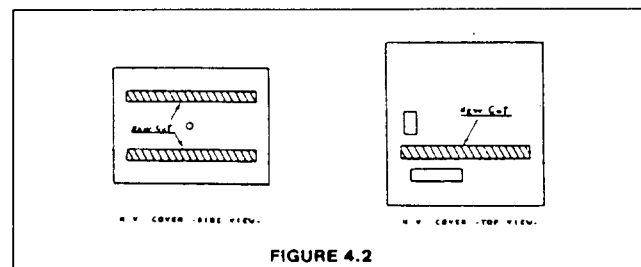

FIGURE 4.2
- E. Cut vents into the aluminum cover of the high voltage unit (as illustrated in Figure 4.2).